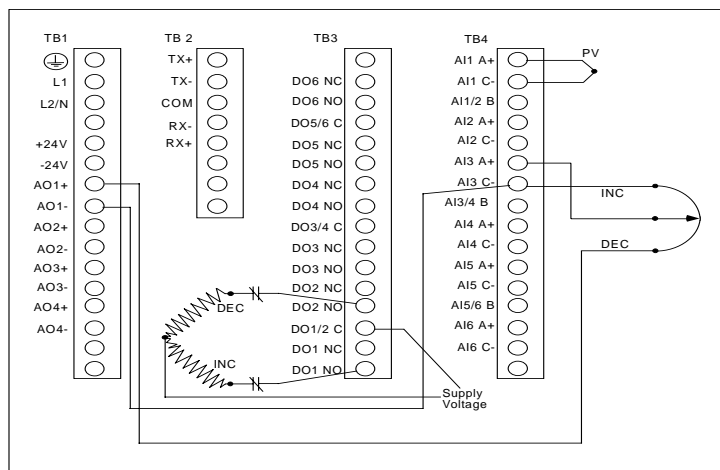

**Figure 2-10 Discrete Output Connections**
Analog outputs may be Current Output (CAT), Voltage Output (VAT), Time Proportion Output (DAT) or Position Proportional Type (PP). For CAT or VAT wiring, see Figure 2-7. For DAT wiring, use general purpose output relays or open collector outputs. For Position Proportional wiring, see Figure 2-10. See Discrete Output Connections.
Make connections according to Figure 2-10.
Note: Figure 2-10 shows example wiring for DO1 and should be used for any Discrete Output.